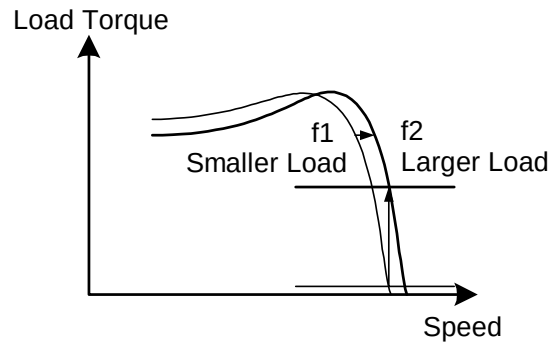

Figure 19 Output Frequency with Slip Compensation.
- Slip compensation is enabled when the output current is greater than Motor No-Load Current (Cn-10). The output frequency will shift from f1 to f2 (>f1) for the positive change of load torque. (See Figure 19)
- This setting is used as a reference value for torque compensation function. See Figure 19. The setting is 0.0~9.9% as a percentage of motor Maximum Voltage Frequency (Cn-04) as 100%.